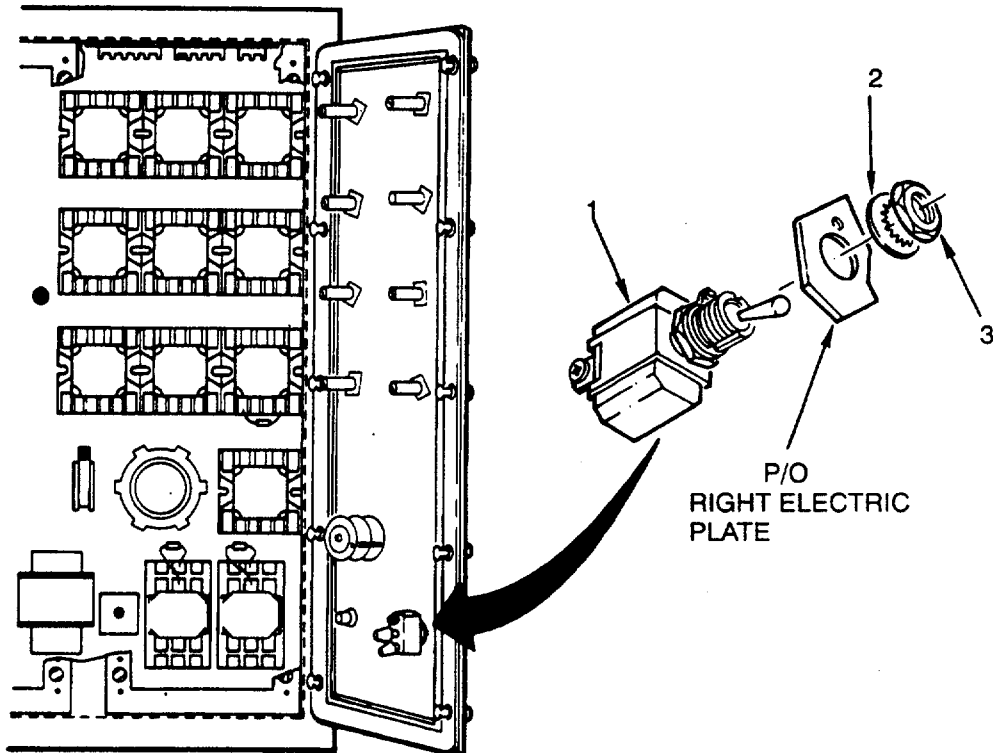

Figure 4-61. Service Light Switch (S2)
1. Check switch (1) to see that leads are properly connected (see Figure 4-61 and Figure FO-3).